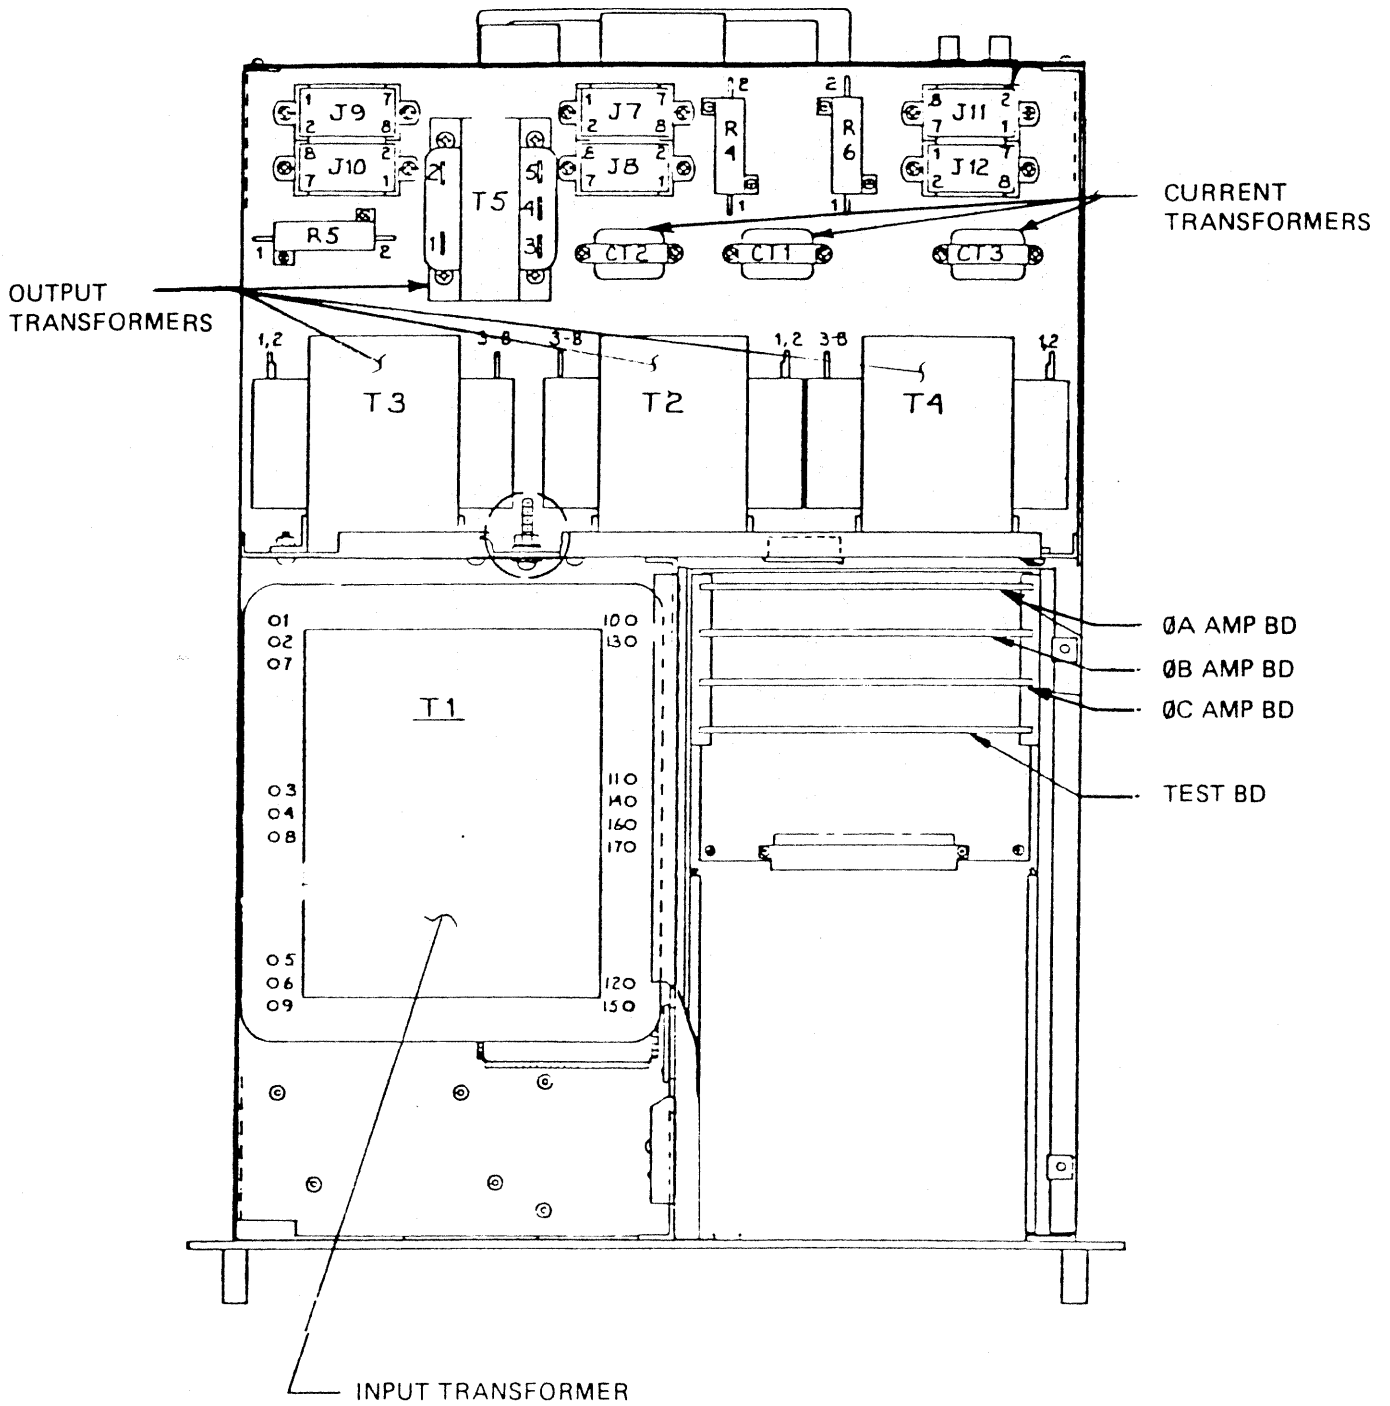

Figure 5-2. Top View
5-20. ADJUSTMENTS. The AC Power Source is delivered fully adjusted and calibrated; therefore, adjustment is not normally required unless a malfunction occurs or parts are replaced. Adjustments should not be attempted unless indicated by troubleshooting. The A, B, and C phase amplifiers are identical, therefore, current limit adjustments are performed in the same manner. See Figure 5-2.
7. To remove clipping from upper peak of sine wave, adjust the upper current limit potentiometer R123 (see Figure 5-2) CCW only as much as necessary to remove clipping. Further adjustment CCW will permit the output transistors to deliver an unsafe amount of current.